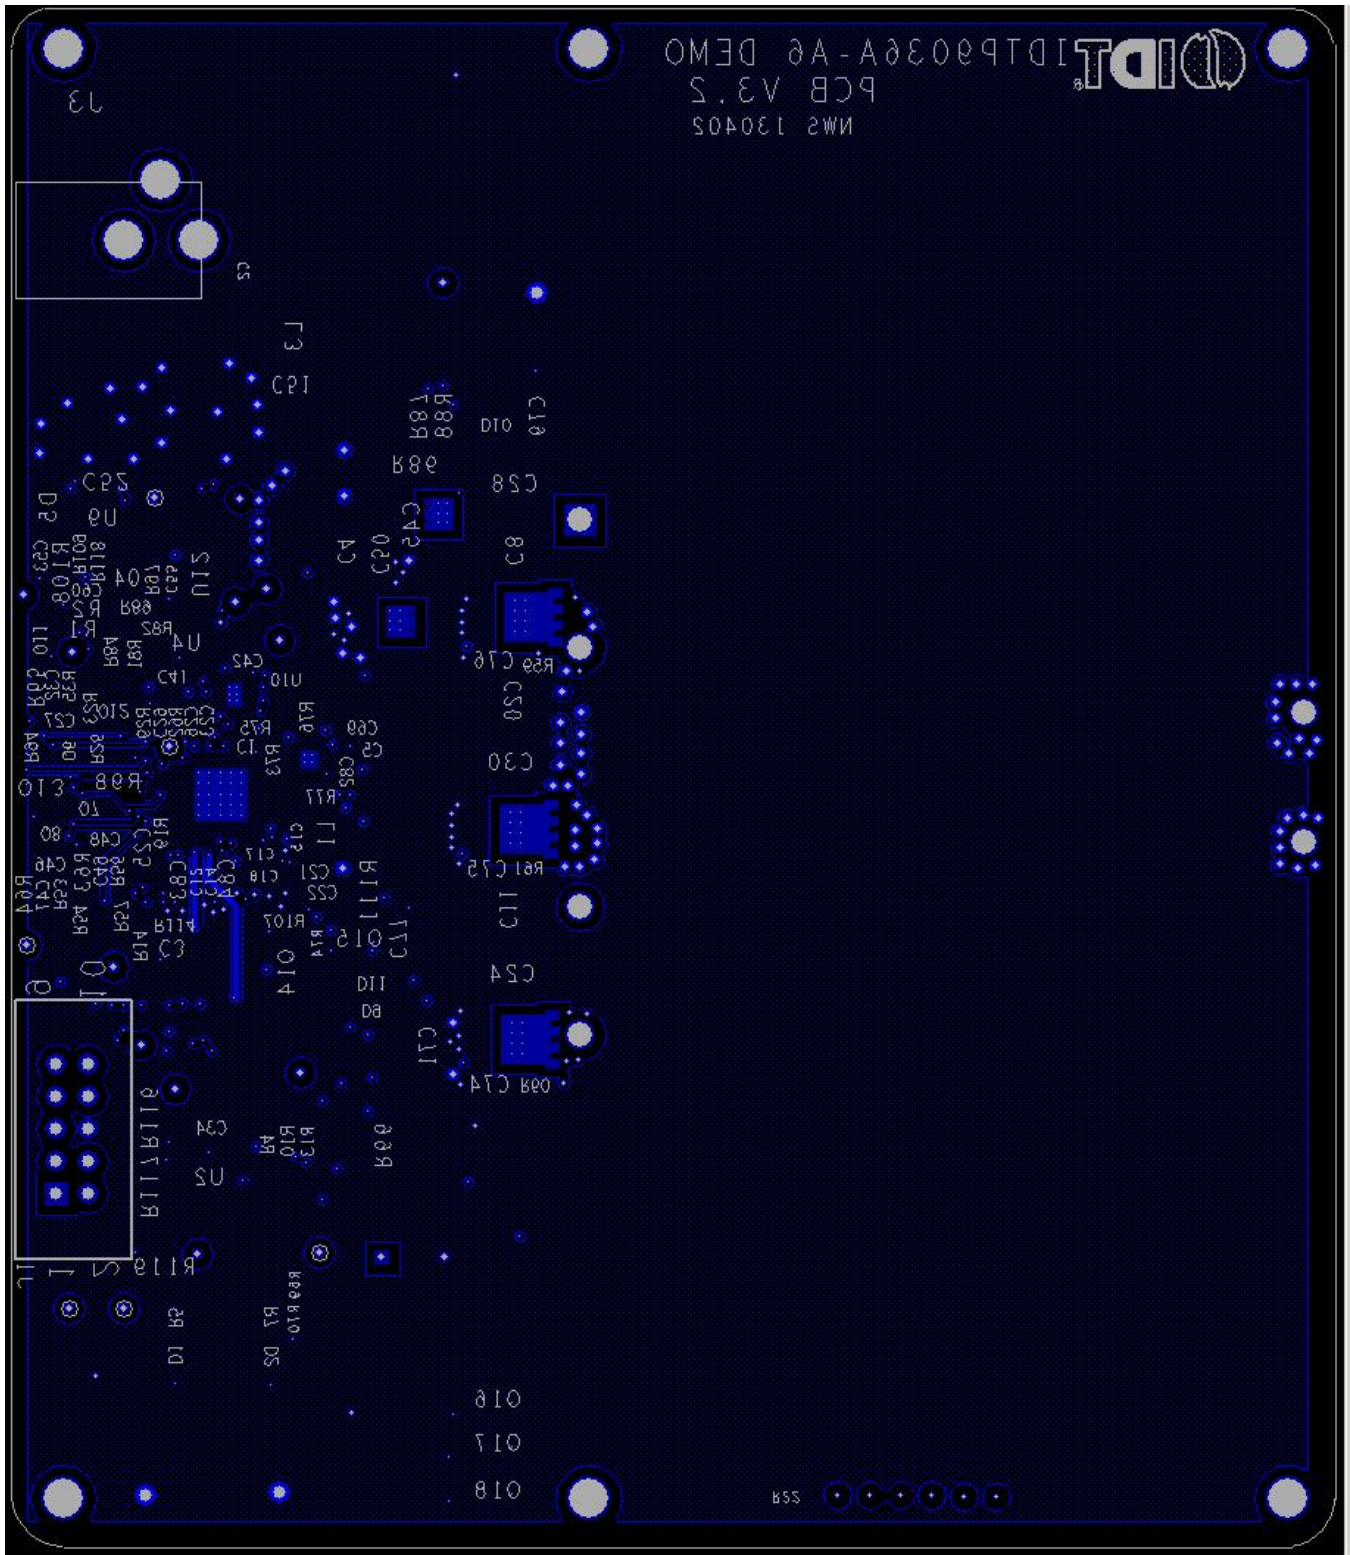
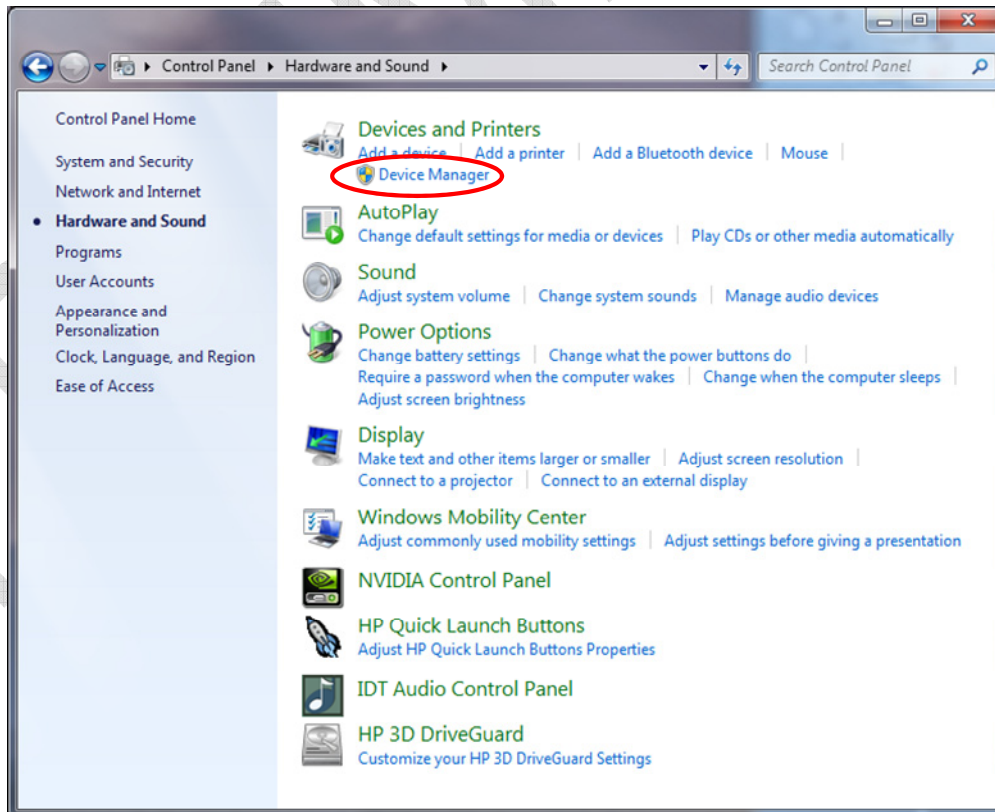

Figure 11 - Bottom Layer and Bottom Silkscreen Layer
Figure 25. Checking the revision of the driver using Device Manager shown is a Win 7 PC
5. **Update the Driver.** If you have a previous version of the eval tool, the driver will probably need to be updated. The way to check on the version of the driver is to open up the Device Manager as shown in Figure 23. Expand the USB Bridge Devices and double click on it. Click on the Driver Tab, and be sure its' Driver Date is 7/5/2009 and Version is 7.0.0.0. See Figure 25 through 28. If it is not version 7.0.0.0 then go to directory C:\Program Files\IDT Wireless Power Solution\Drv as shown in Figure 11 and double click the DPInst.exe file. The system will then go through a driver update install. Be sure to reboot your machine once the install is complete.